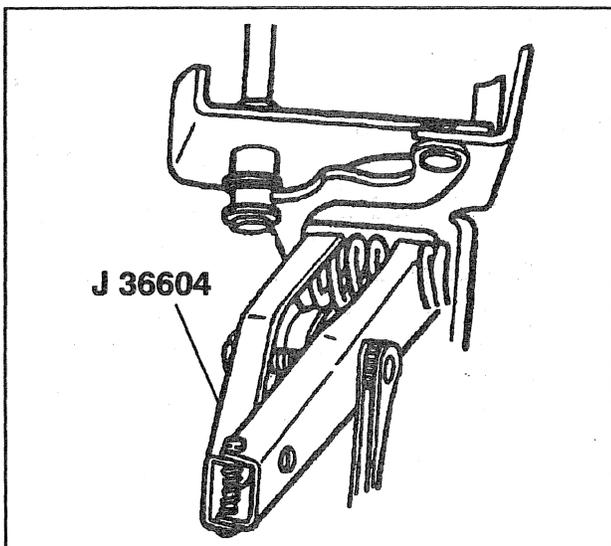

Figure 12—Hinge Spring Removal
### Remove or Disconnect (Figures 12, 13, and 14)
4. Door hinge spring using J 36604 (figures 12 and 13).
### Install or Connect (Figures 12, 13, and 14)
7. Door hinge spring using J 36604 (figures 12 and 13).